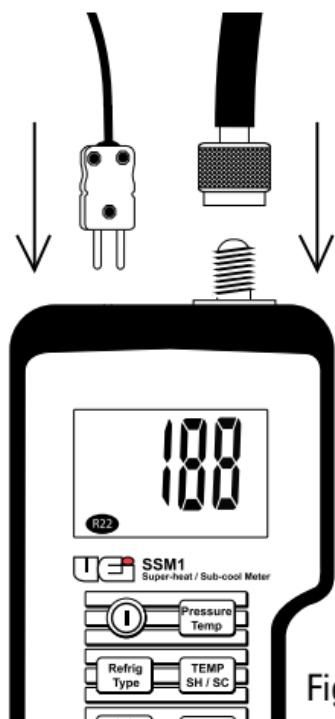

Fig. 1
1. Connect a standard refrigerant hose to the $\frac{1}{4}$ " flare connector on top of the SSM1. (Fig.1) -OR- Connect the SSM1 in-line to a refrigerant source using the tee fitting (Fig.2)
2. Connect the included pipe clamp probe to the k-type input jack on top of the SSM1. (Fig. 1)